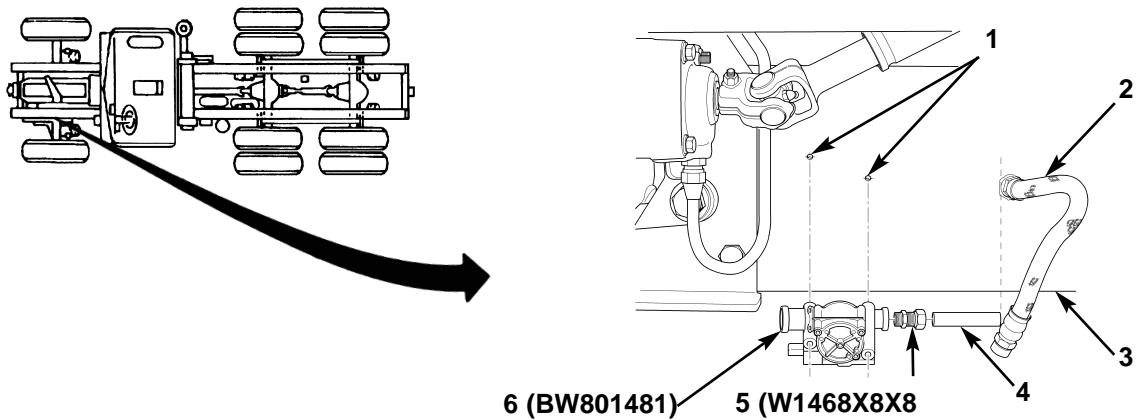
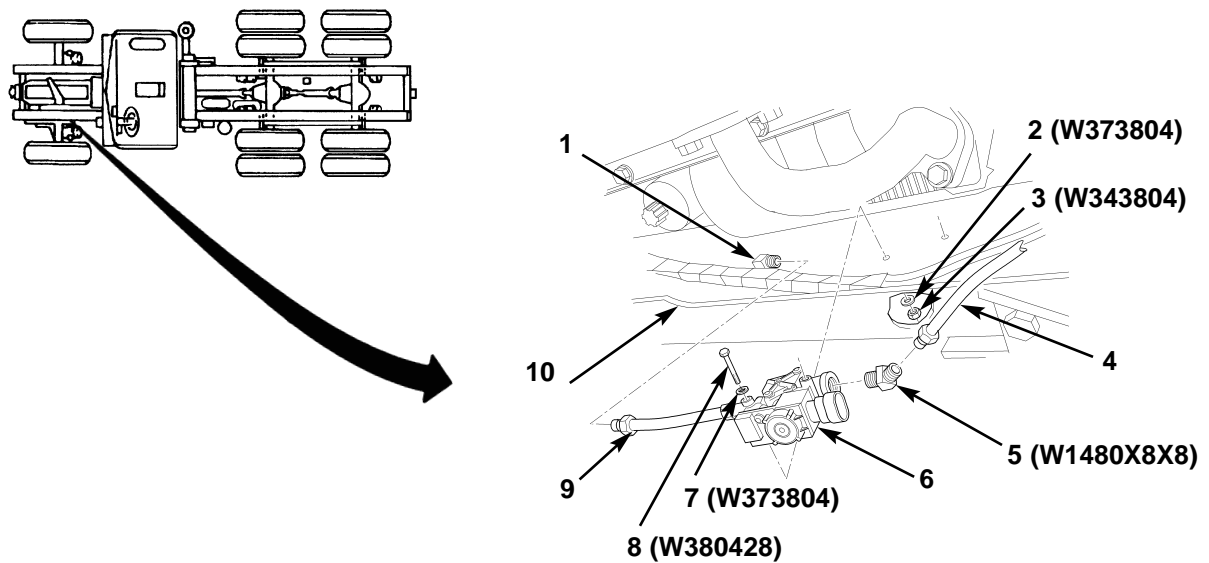

Figure 40. Drilling Mounting Holes for Front Modulator.
Figure 41. Installing Front Modulators.
2. Install new adapter (figure 40, item 5) on outlet of new modulator (figure 40, item 6), and install 4-1/2 in. (114 mm) tube (figure 40, item 4) on adapter (figure 40, item 5).
3. Hold modulator (figure 40, item 6) up to outside left frame rail (figure 40, item 3) at front of truck so that end of 4-1/2 in. (114 mm) tube (figure 40, item 4) contacts brake hose (figure 40, item 2). With modulator (figure 40, item 6) and tube (figure 40, item 4) level with frame rail (figure 40, item 3), mark location of modulator mounting holes on frame rail (figure 40, item 3).
4. Using punch and 5/16 in. (8 mm) drill bit, locate and drill two holes (figure 40, item 1) in left frame rail (figure 40, item 3) as marked in step 3.
5. Install new elbow (figure 41, item 5) on inlet of modulator (figure 40, item 6) as shown in figure 41.
6. Connect 4-1/2 in. (114 mm) piece of tube (figure 41, item 9) removed in step 1, to elbow (figure 41, item 1), and install remaining length of tube (figure 41, item 4) on elbow (figure 41, item 5).
7. Install modulator (figure 41, item 6) on inside of left frame rail (figure 41, item 10), at holes drilled in step 4, with two new washers (figure 41, item 7), new bolts (figure 41, item 8), new washers (figure 41, item 2), and new locknuts (figure 41, item 3).
8. Repeat steps 1 through 7 for installation of opposite front modulator (figure 41, item 6).